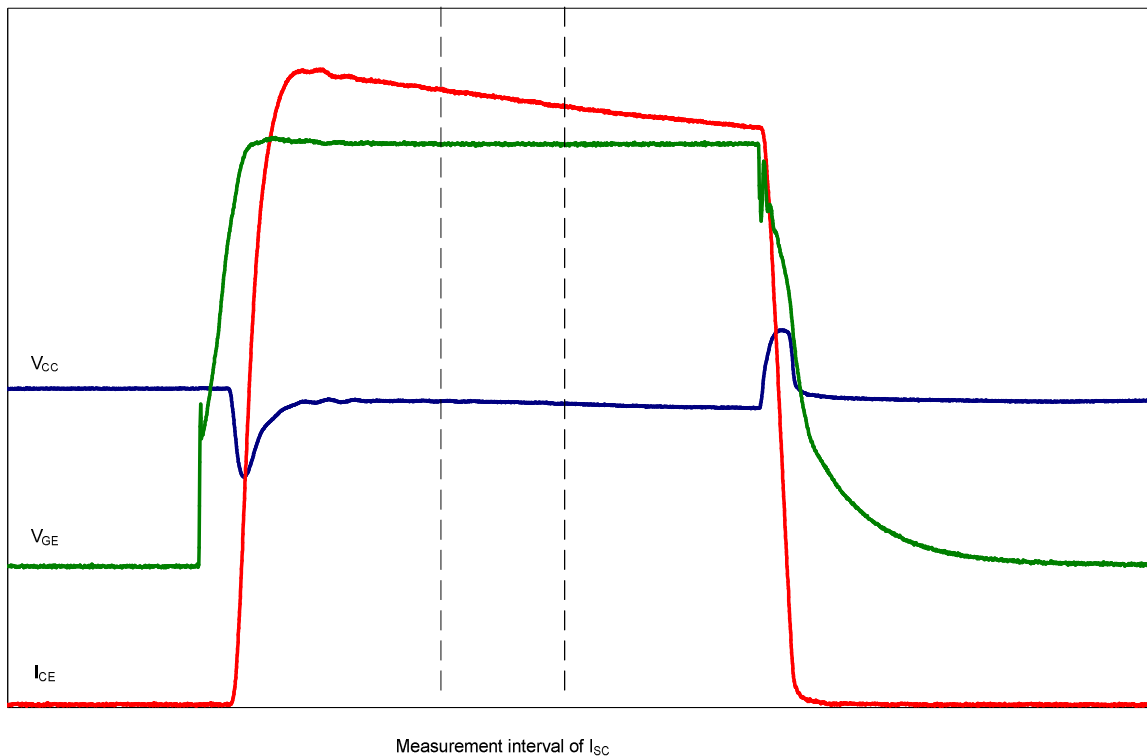

Fig. 5 Typical waveforms for Short-Circuit.
**$I_{sc}$ :** *Short circuit current.* The self-limited current reached in desaturation when the device is turned on into a short circuit at the specified conditions. Typical waveforms during such an event are shown in Fig. 5. The value shown in the data sheet is the average current during the middle 25 % of the current pulse.